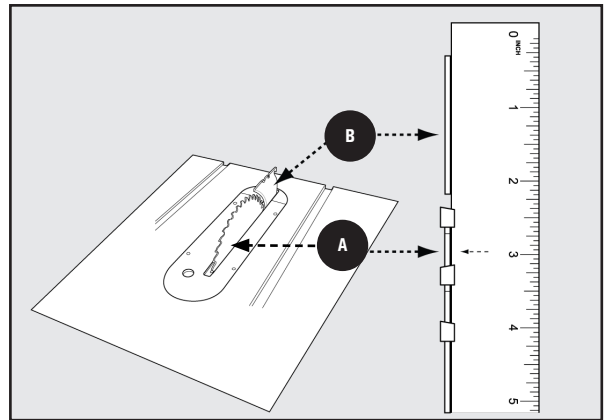

Figure 39
- 1. Horizontal Alignment:** Lay a straight edge on the table against blade face **A** and make sure it extends out along the riving knife **B**, see Figure 39. The riving knife should just touch the straight edge. Be sure the straight edge goes between the teeth and rests on the blade face and the riving knife for proper alignment.